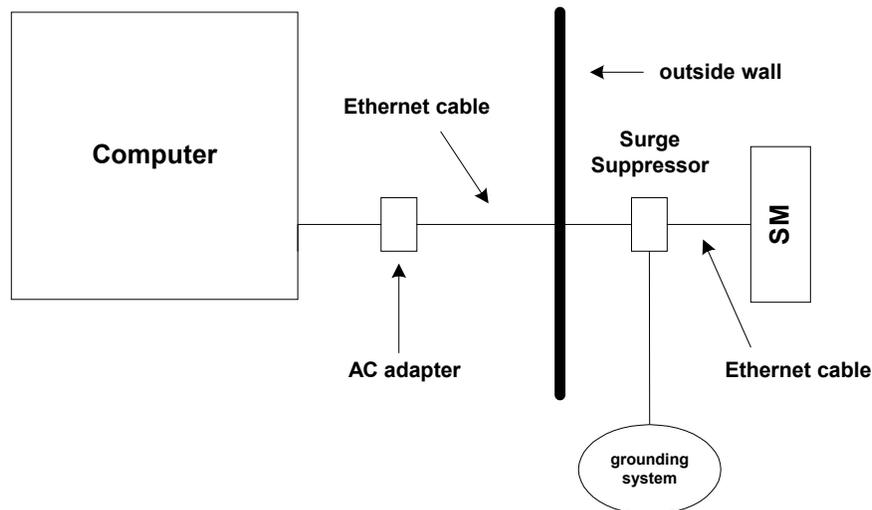

FIGURE 4
3. Connect the unit as described in FIGURE 4 or FIGURE 5.
Connect the Canopy Subscriber Module, with the Canopy Surge Suppressor, to your computer as described below. Refer to FIGURE 4 for a wiring diagram.